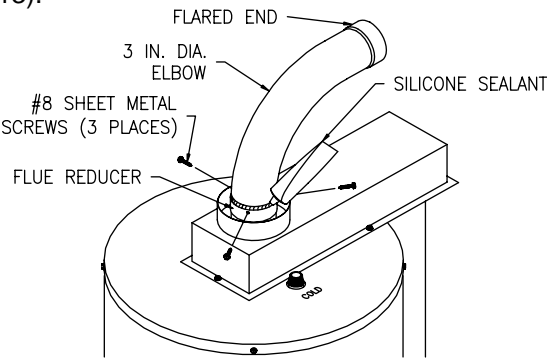

Figure 13
3. For water heaters where the three (3) inch (7.6 cm) diameter elbow is not yet installed:
Insert the straight end of the three (3) inch (7.6 cm) diameter elbow into the flue reducer until firmly seated and oriented in the correct direction. With a 1/8 inch diameter drill bit (not supplied), drill three (3) holes, 120° apart, through the flue reducer into the three (3) inch (7.6 cm) diameter elbow. Fasten with three (3) #8 sheet metal screws (supplied). Using the supplied RTV silicone sealant, apply a sufficient amount to seal the joint. (See Figure 13).